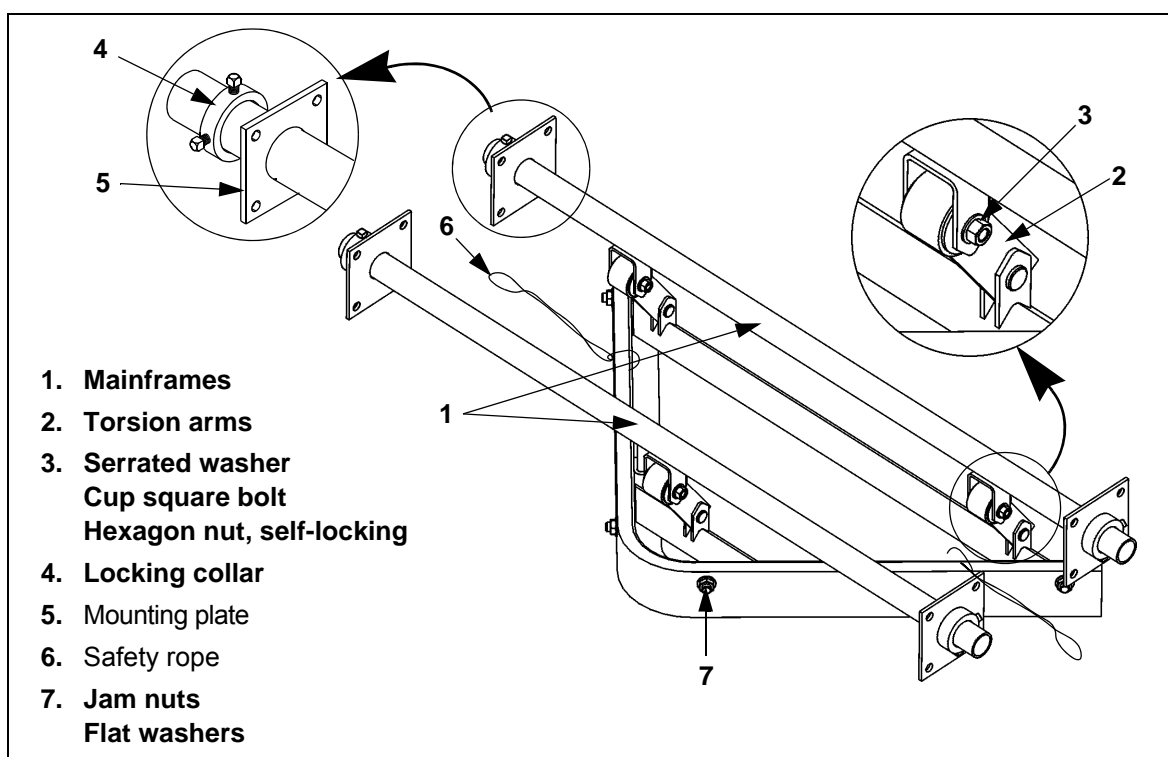
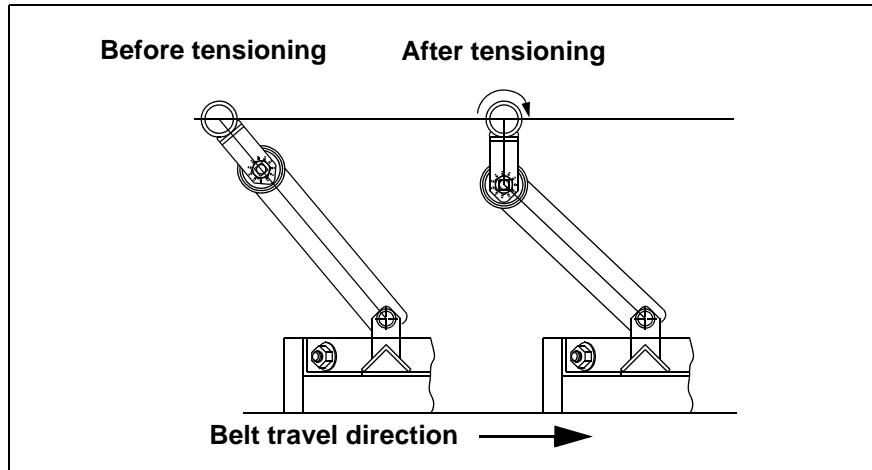
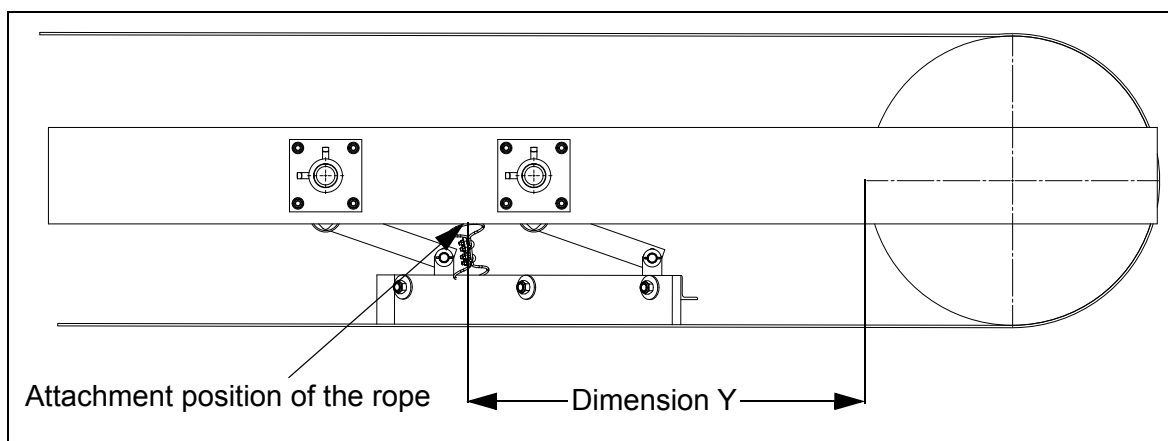

Fig. 5: Installing the V-Plow
Fig. 6: Tensioning the V-Plow
Fig. 7: Position of the attachment ropes
1. Insert the mainframes (1, Fig. 5) through the holes. Loosely screw the torsion arms onto the mainframes.
2. Centre the blade on the conveyor belt. Slide a locking collar (4, Fig. 5) up to the mounting plate (5, fig. 5) on the far side of every mainframe. Tighten the two set screws on the locking collar.
3. Note Fig. 6. Push the blade away from the bend pulley until the flaps of the mainframe and the torsion arms are aligned in a straight line as shown. Tighten the hex nut crown elastic locks (3, Fig. 5) to 130 +/- 6 Nm.
4. Use a suitable tool to rotate the mainframes in the direction shown in Fig. 6 until the mainframe flaps are at a 90° angle to the conveyor belt and the blade is flush with the conveyor belt. Please ensure that the blade is completely flush with the conveyor belt.
5. Lock the mainframes in this position by tightening the two set screws in the locking collar (4, Fig. 5).
Note Fig. 7. Attach two safety ropes (6, Fig. 5) having the length given in Table 4 to the support structure or to another suitable structure. The ropes should not sag more than 50 mm.
- Remove the jam nuts and flat washers (7, Fig. 5), which are used to fasten the blade to the support bracket.